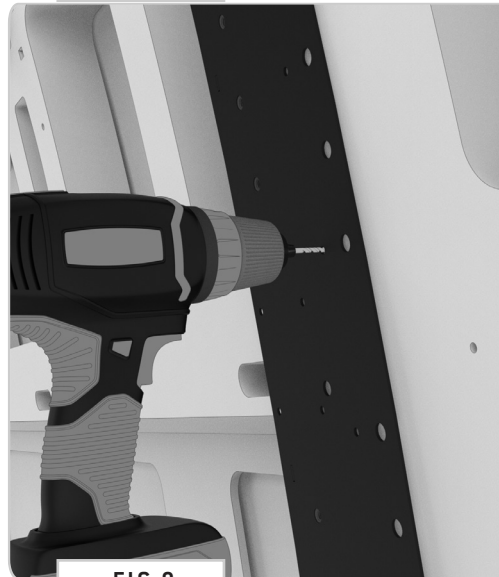
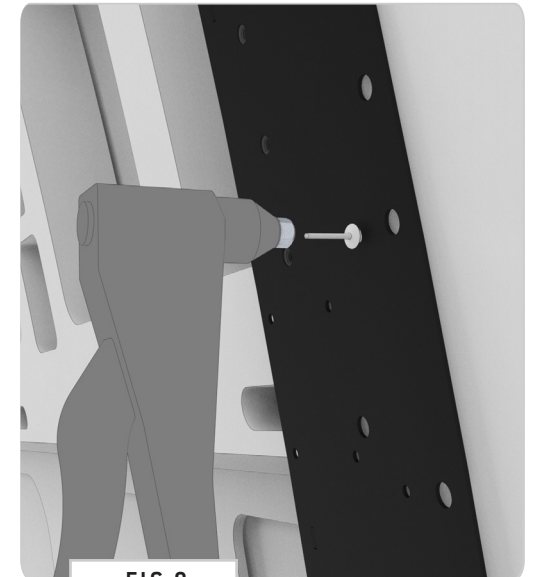

FIG 8
FIG 9
4.2 Securing the Driver Side Front Bracket: Double-check your measurements against your marks and proceed to secure the **Driver Side Front Bracket** by drilling through all of the **Rivet Holes** (**FIG 8**), installing the **Rivets** as you go (**FIG 9**).